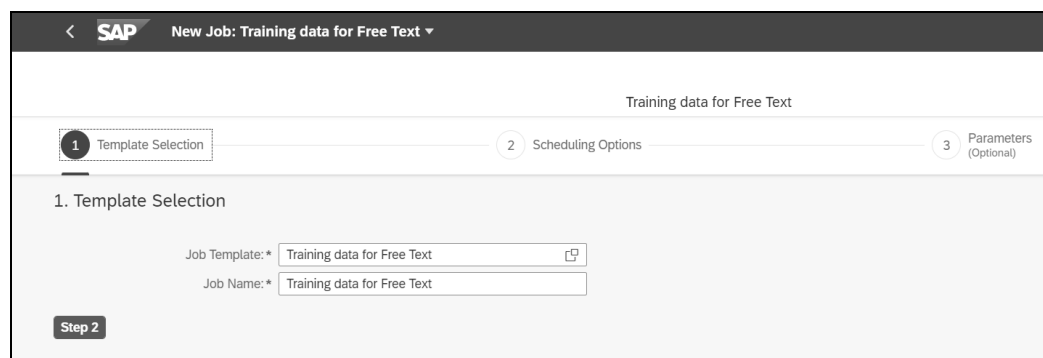

Figure 5.36 Training Data for Free Text
4. Under **Job Template**, choose the **Training Data for Free Text** template as in Figure 5.36.